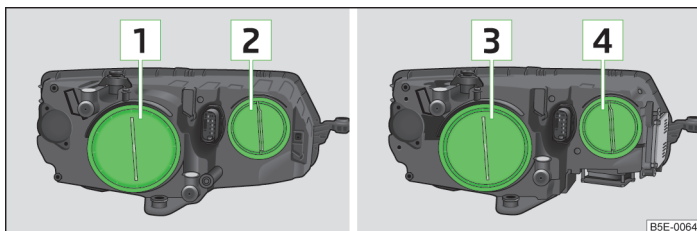

Fig. 212 Bulb arrangement: Headlight with halogen bulb/with Xenon bulb
- Remove the rubber cover » Fig. 212 on page 235.
- Remove the rubber cover **[4]** » Fig. 212 on page 235.